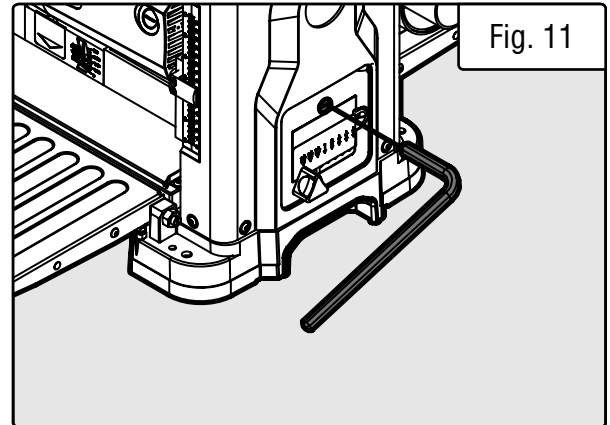

Fig. 11
3. Insert the included hex wrench into the hole above the depth stop label (Fig. 11; adjust the height of the rollercase if necessary). Use the hex wrench to turn the cutterhead, so the cutting inserts in question are easily accessible. Hold the hex wrench steady to hold the cutterhead in place.